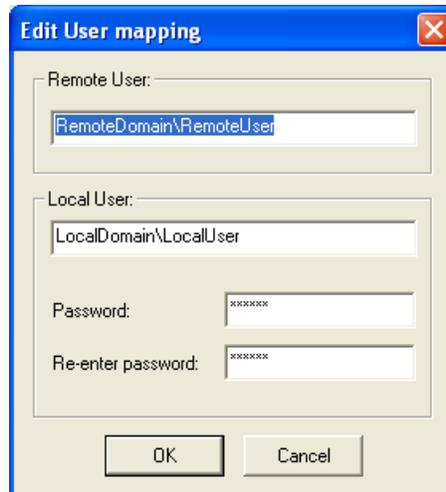

Figure 17 - Edit User Mapping Window
2. The new **Edit User mapping** window (Figure 17) is displayed.